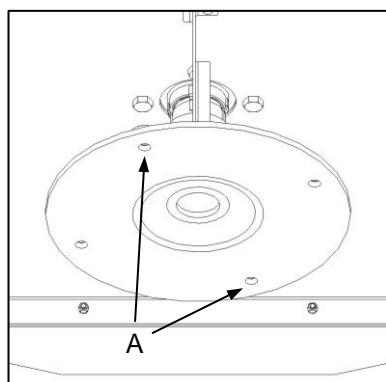

Fig. 7
- ✓ Check blade mounting holes (Fig. 7-A / 8-A) for signs of wear, elongation or fractures. In the event of any observed defect do NOT attempt a repair, but provide immediate replacement of the defective item.
- ✓ Gaan lemmonteringssgate (Fig. 7-A / 8-A) na vir tekens van slytasie, vergroting of breeke. In die geval van enige waargenome defek, moet NIE probeer om dit herstel nie, maar vervang die defekte item onmiddellik.